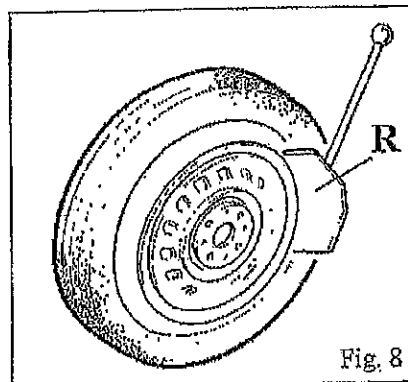

Fig. 8
- Position the wheel against the rubber stops on the right side of the tyre changer (S).
- Position the bead breaker blade (R) against the tyre bead at a distance of about 1 cm from the rim (fig. 8). Pay attention to the blade, which must operate correctly onto the tyre and not onto the rim.
- Press down the pedal (U) to activate the bead breaker and release it when the blade has reached the end of its travel or in any case when the bead is broken.